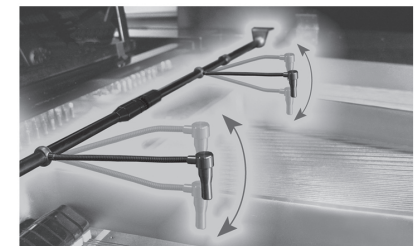

Figure 12. Adjusting the Microphone Height
10. The flex arms also allow you to adjust the height of the microphone heads as shown in *Figure 12*. It is suggested that you place the microphone heads two to three inches above the piano strings.